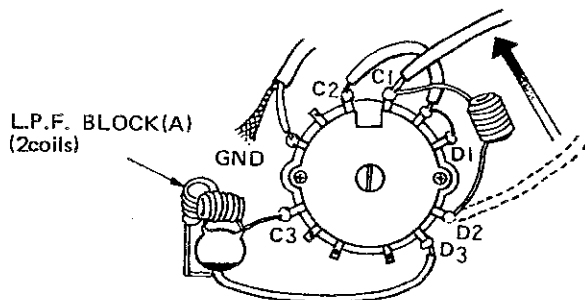

Fig. 12
2. Connect decks C₁ to D₂ with coil L34-0947-05. Position as illustrated, **Fig. 12**.
4. Connect decks C₃ to D₃ with L.P.F. subassembly A: White lead to D₃, coil lead to C₃. (**Fig. 12**)